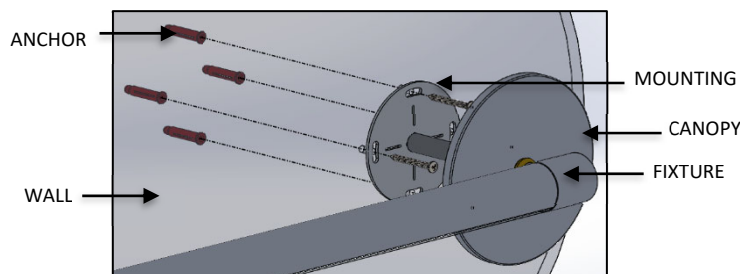

FIG. 13- FIXTURE INSTALLATION ON OTHER END
3. With a person at each end of the FIXTURE, attach one end to the junction box and the other end to the ANCHORS installed earlier (hardware by others.) as shown FIG. 13.